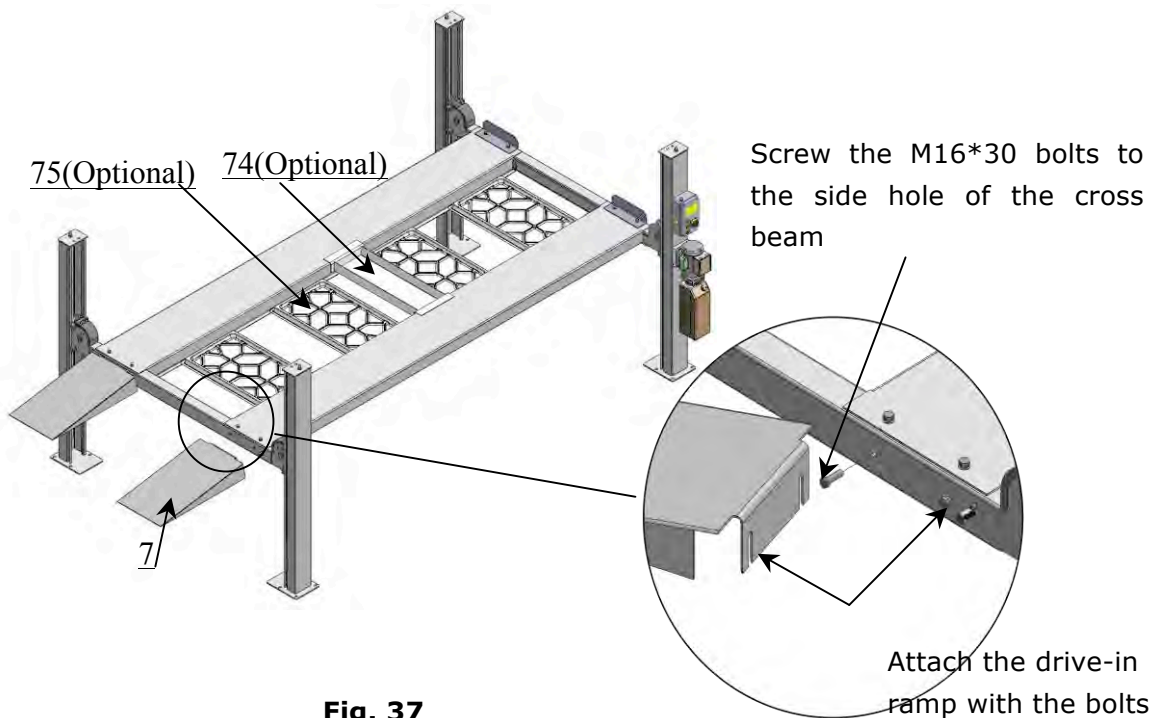

Fig. 37
O. Install drive-in ramp, optional jack tray and optional plastic oil pans (See Fig. 37). According to the below diagram screw the M16*30 bolts, then attach the drive-in ramp.